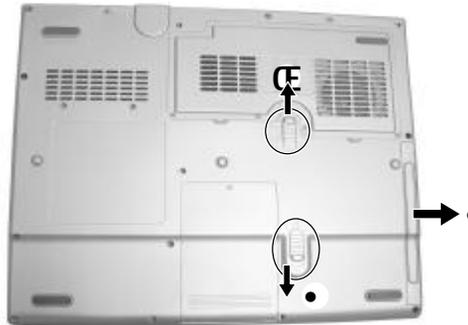

Figure 2-1 Remove the battery pack
2. Slide and keep the upper release lever on “unlock” (  ) position (  ), and then pull the battery pack out of the compartment (  ) while sliding the lower release lever downwards to “unlock” (  ) position (  ). (Figure 2-1).